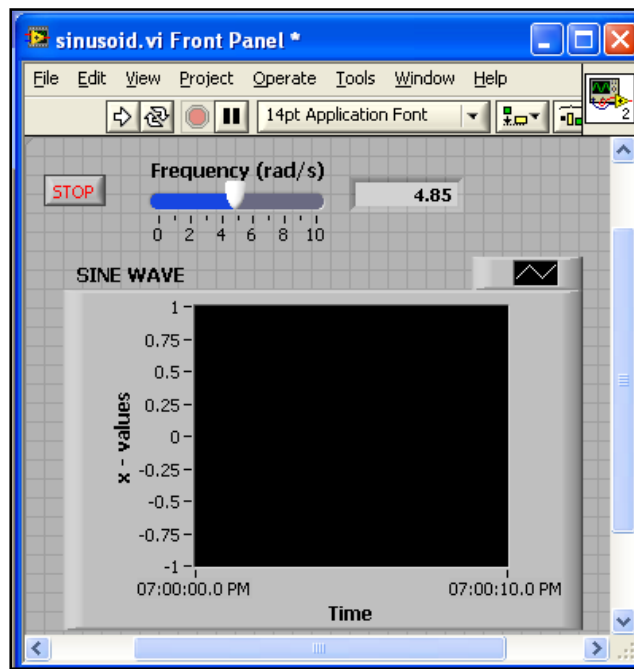

Figure 23. Modified chart properties.
- **[Right-Click]** the “SINE WAVE” chart in the “Front Panel” window, then select **[Properties]** menu item. Match the values given in Table 3. (see Figure 23)